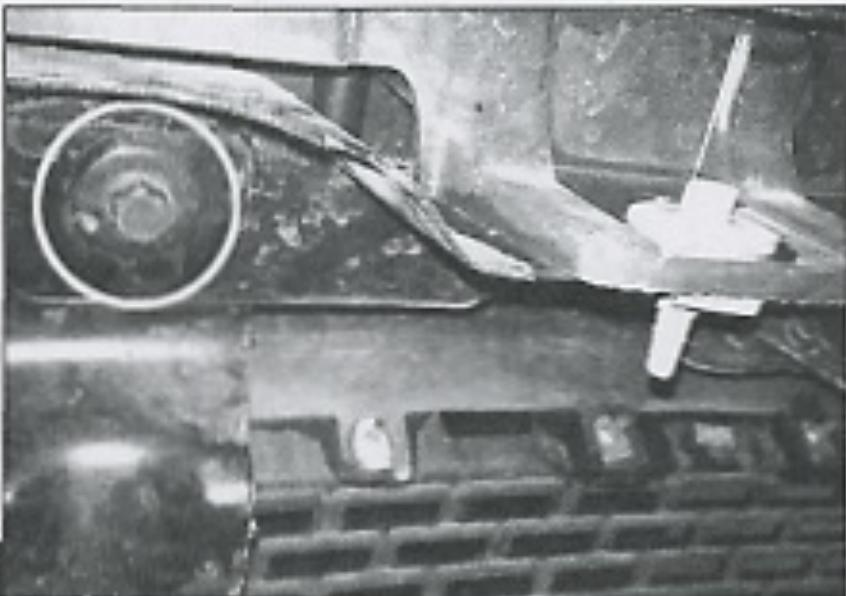

Fig 1
1. Remove (2) bolts attaching lower grill shell to the top of the bumper. These are located under the hood latch release and to the side. Picture is taken from the radiator looking forward under lower grill shell and hood latch release. Discard at this time (Fig 1).